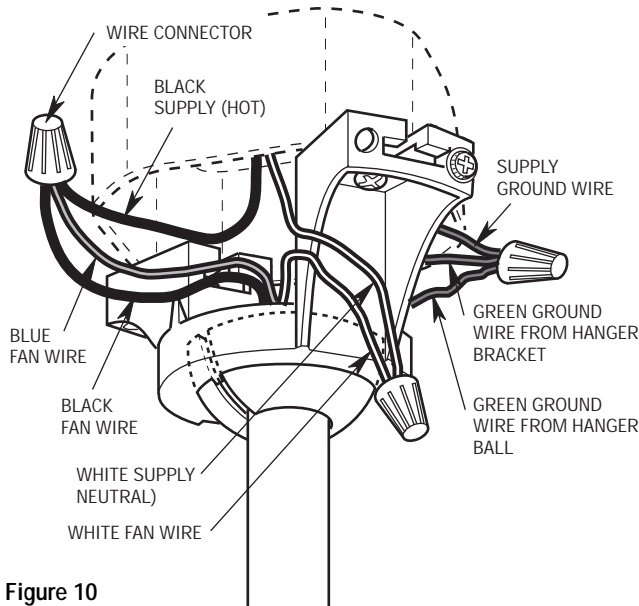

Figure 10
1. Connect the green grounding lead from the hanger ball and the green grounding lead from the hanger bracket to the grounding conductor of supply (this may be a bare wire or wire with green colored insulation) (Figure 10). Securely connect wires using wire connectors supplied.
2. Securely connect the fan motor white wire to the supply white (neutral) wire using wire connector supplied (Figure 10). Securely connect the fan motor black wire and blue wire to the supply black (hot) wire using wire connector supplied (Figure 10). After connections have been made, turn leads upward and carefully push leads into the outlet box, with the white and green leads on one side of the outlet box and the black and blue leads on the other side of the outlet box.